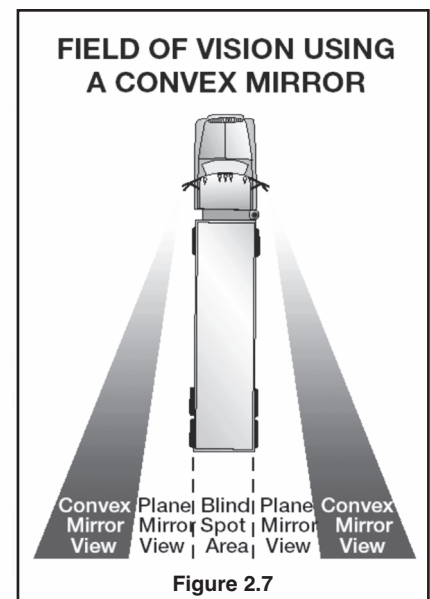

Figure 2.7
- Many large vehicles have curved (convex, “fisheye,” “spot,” “bugeye”) mirrors that show a wider area than flat mirrors. This is often helpful, but be aware that everything appears smaller in a convex mirror than it would if you were looking at it directly. Things also seem farther away than they really are. It is important to realize this and to allow for it. Figure 2.7 shows the field of vision using a convex mirror.